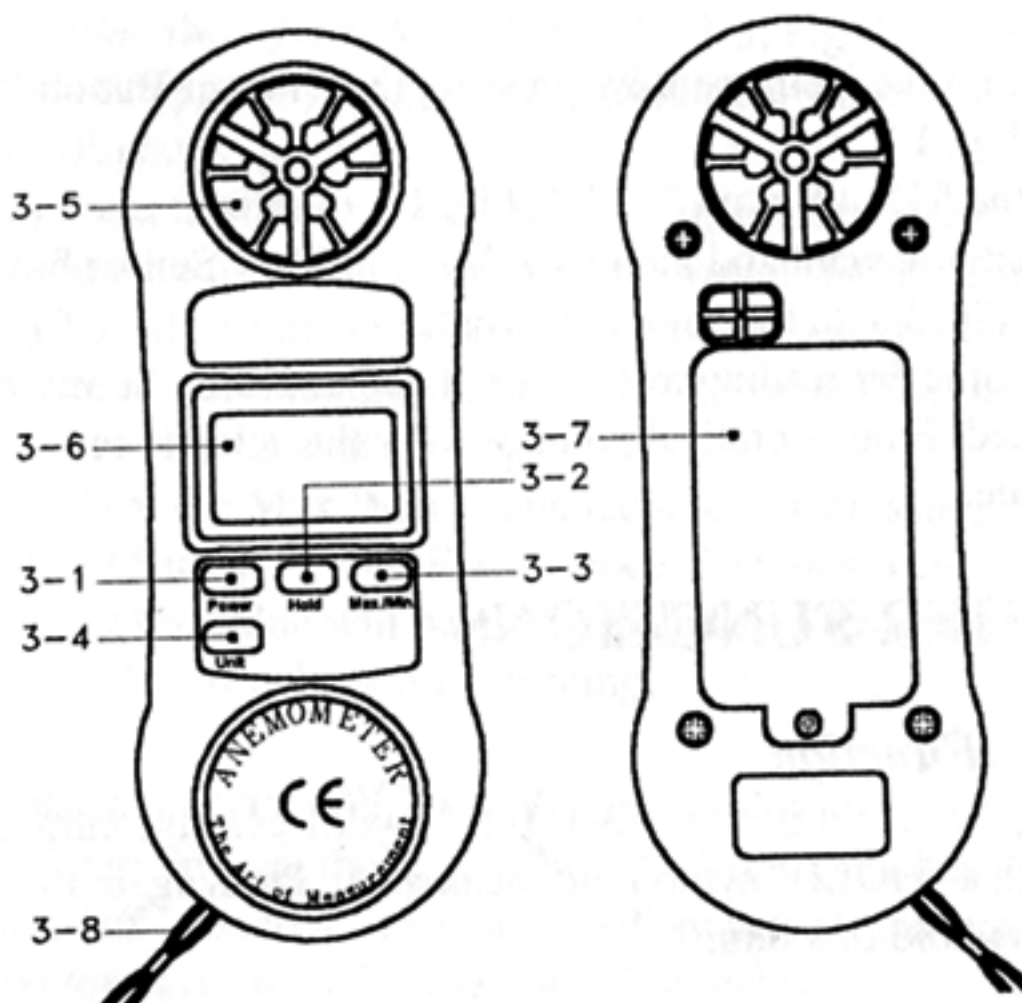

Fig. 1
- 1) Power on the instrument by pressing the " Power Button " (3-1, Fig. 1).
- 2) Press the " Unit Button " (3-4, Fig. 1) to select unit that you want and then face the " Air Flow Sensor " (3-5, Fig. 1) to the source of wind.
Pressing the "Hold Button" (3-1. fig. 1) will freeze the current value with a "HOLD" symbol on the display. Press again to release the hold function.
- 1) The Data Record function records & displays the maximum and minimum reading values. Start the Data Record function by pressing the " Max./Min. Button " (3-3, Fig. 1) once. There will be a " REC " symbol on the display.
(a) Press the " Max./Min. Button " (3-3, Fig. 1) once and the " Max " symbol along with the maximum value will appear on the display.
(d) Clear the Max./Min. value recorded by pressing the " Hold Button " (3-2, Fig. 1) once. Previous recorded Max./Min. value will be given up and then revert to the REC. function keep on recording.
2) Open the " Battery Compartment / Cover " (3-7 Fig. 1) and remove the battery.